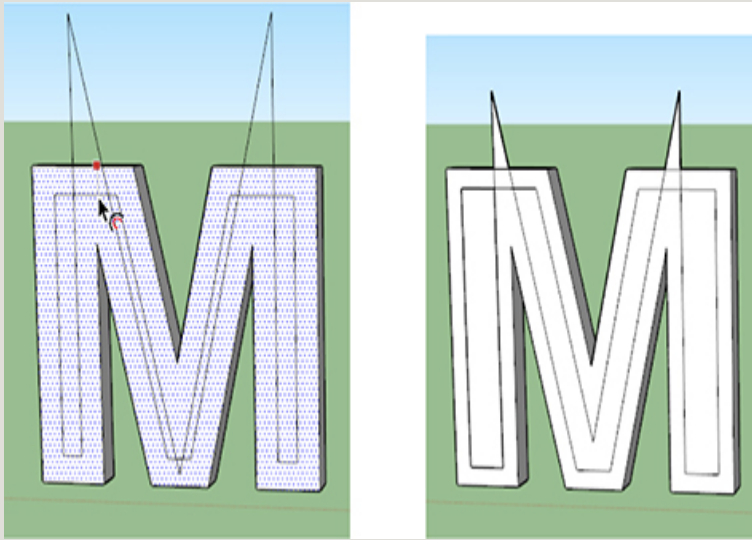

Figure 3-94 Offset the *M*.
3. Offset the *M* (Figure 3-94). Click the Offset tool on the edge, move it in, and click to